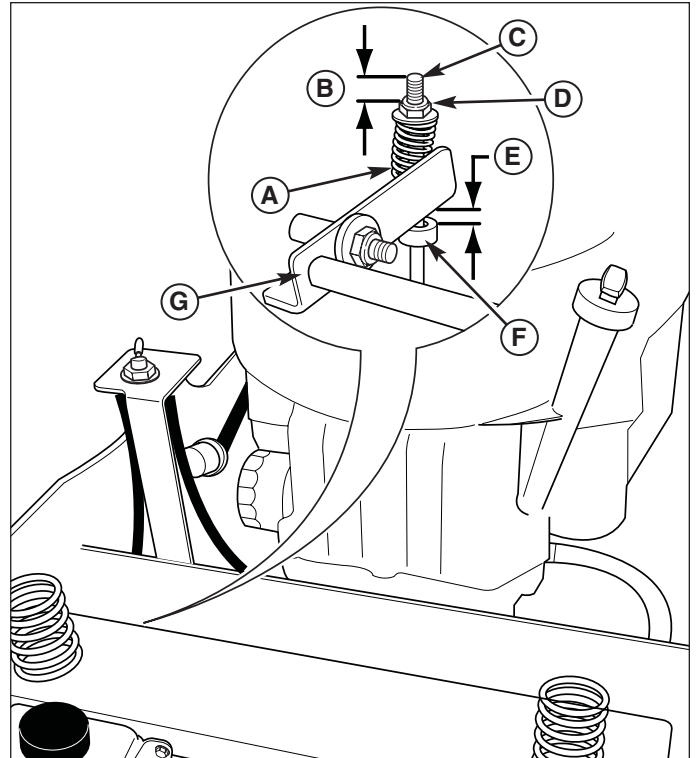

Figure 23. Parking Brake Adjustment
3. Measure the distance from the top of the brake spring rod (C, Figure 23) to the top of the lock nut (D) on both sides of the unit. The measurement should be $.50''$ (1,27 cm). If not, adjust the locknut to achieve the measurement of $.50''$ (1,27 cm)
4. Measure the distance between the bottom of the brake shaft weldment (G) and the top of the set collar (F). The measurement should be $.375''$ (0,95 cm). If not, position the set collar until the measurement equals $.375''$ (0,95 cm).